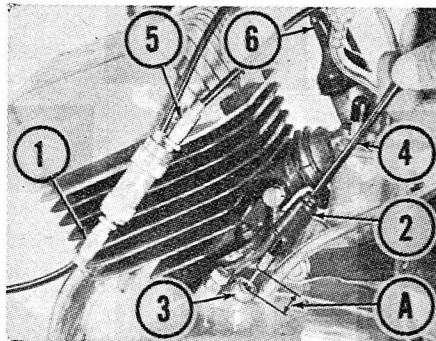

Fig. SA1-5—Adjustment points for the oil injection system. Engine may be damaged if incorrectly adjusted.
On models with automatic oil injection, the throttle and oil pump cables must be properly adjusted to provide the correct amount of oil. Turn the cable guide (1—Fig. SA1-5) until the hand lever cable has 0.04 inch free play. Adjust the cable guide (6) until the carburetor cable has very slight free play. Make sure that throttle slide is not pulled up. Remove the rubber cap (2) and pull the oil